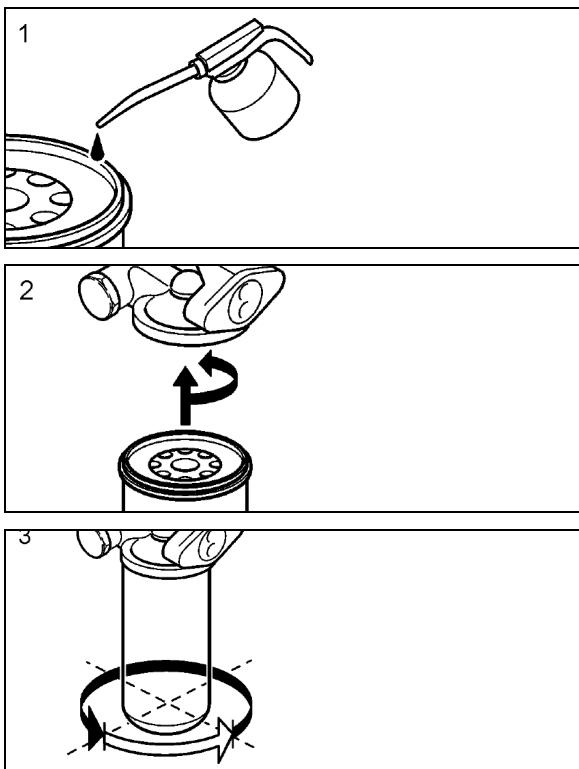

FIGURE 9: OIL FILTER REPLACEMENT
- Prefill the new oil filters with approved engine oil. Refer to Figure 9, also, lubricate the filter gaskets with engine oil (1). Hand tighten the oil filters until they contact the sealing surface of the oil filter housing (2). Manually tighten the oil filters an additional 3/4 to 1 full turn (3).